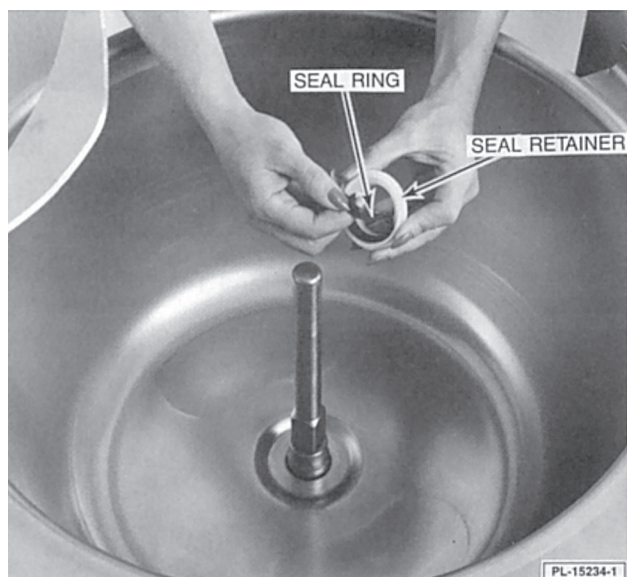
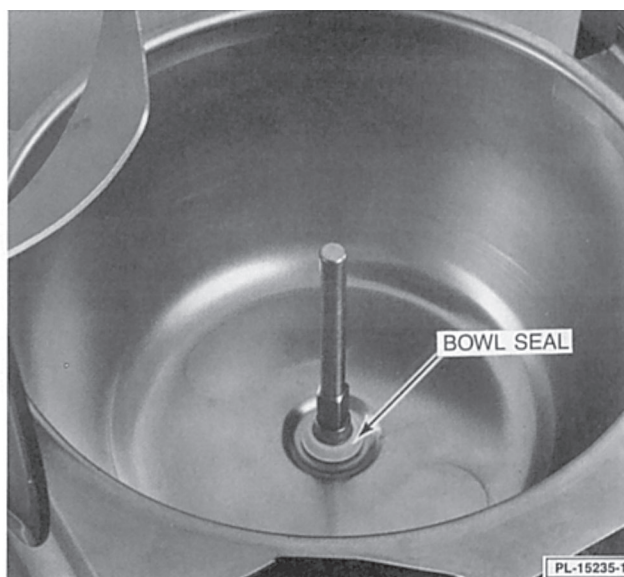

Fig. 2
Fig. 3
**Bowl Seal:** Insert the black seal ring in the groove of the white seal retainer so the thin black edge is down and the tapered white part on the retainer is up (Fig. 2). Then install the seal onto the motor shaft with the thin black edge down (Fig. 3). Seat seal securely against the bottom of the bowl with a  $\frac{1}{4}$  turn. Store the extra seal shipped with the machine in a location where you can find it, if necessary.
Reassemble seal and retainer (Figs. 2 & 3). Be sure bowl area is properly cleaned before reinstalling seal. Thin black edge is down; tapered white part is up. Replace seal on shaft, push down firmly and twist to seal it against bottom of bowl. NOTE: The Bowl Seal should be cleaned after every third batch or whenever the type of product is changed.